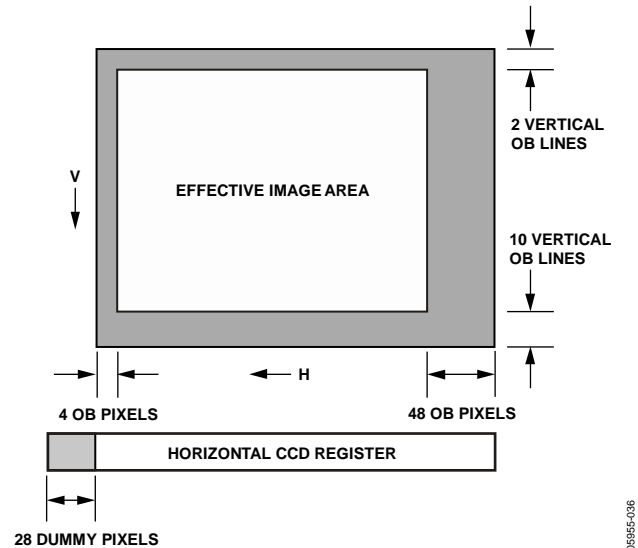

Figure 36. Example CCD Configuration
Figure 36 shows an example of a CCD layout. The horizontal register contains 28 dummy pixels that occur on each line clocked from the CCD. In the vertical direction, there are 10 optical black (OB) lines at the front of the readout and two at the back of the readout. The horizontal direction has four OB pixels in the front and 48 in the back.